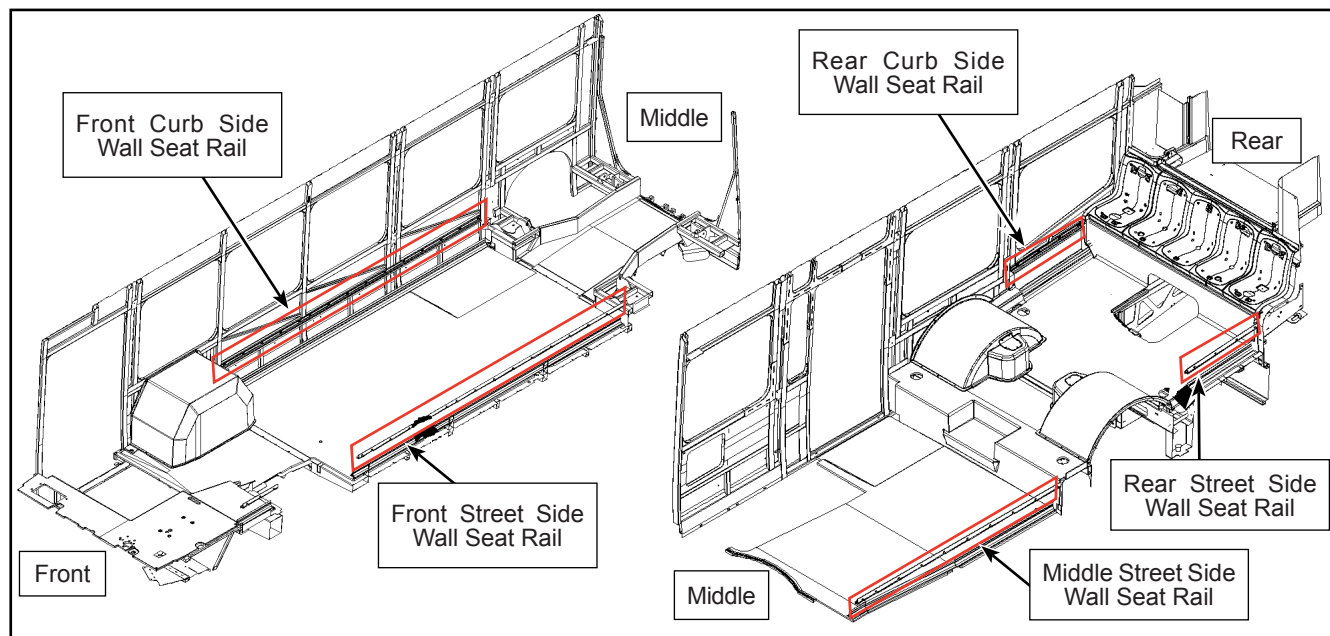
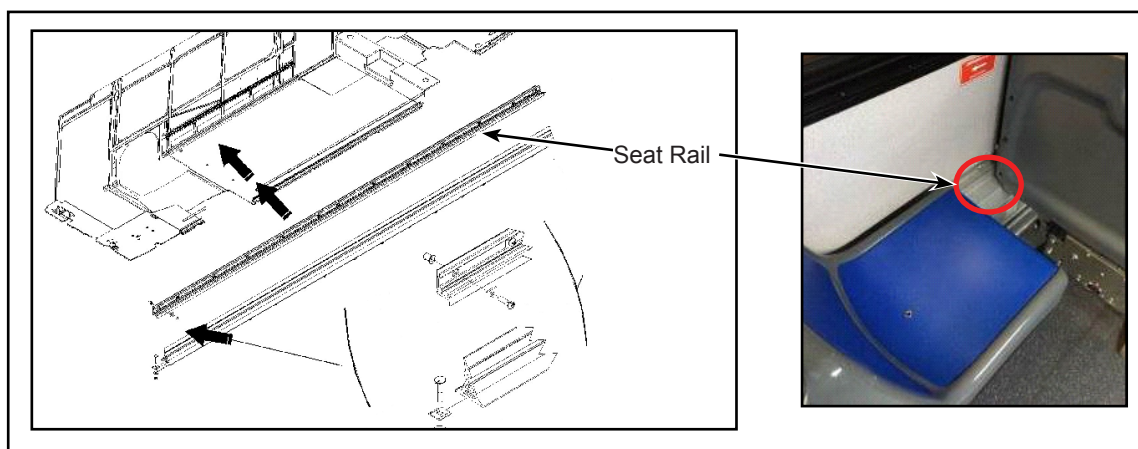

Figure 3 - Typical Location of Seat rails
Figure 5 - Typical Location of Seat Rail
- 1.4. Inspect seat rails at the seats bracket area for cracks (see Figure 3).
- 1.7. Locate seat rail hardware on along the wall (see Figure 3 and Figure 5).